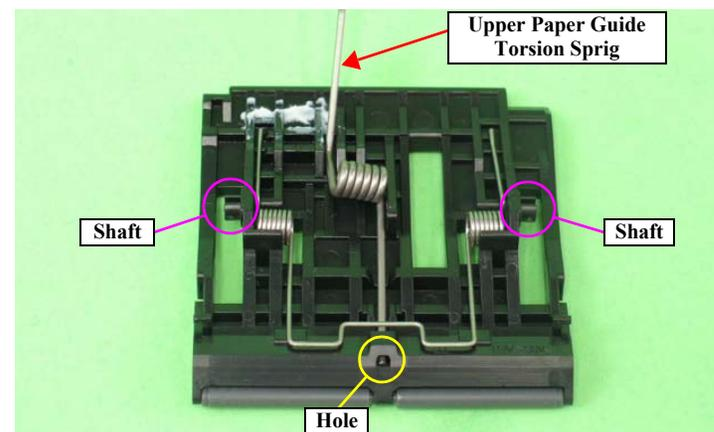

Figure 3-137. Reinstalling the Upper Paper Guide Torsion Spring
- Lift the six Upper Paper Guide Assys from the Main Frame to release the shaft referring to Figure 3-137, and remove the Upper Paper Guide Assys to the rear.